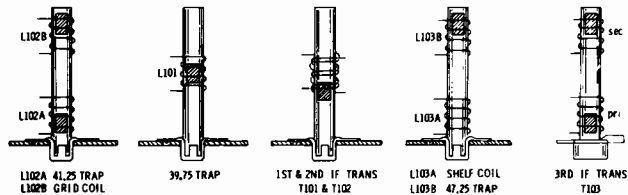

FIGURE 9. COIL CORE POSITIONS
10. All coil slug tuning positions, in relation to chassis, are given in the procedure chart and in the separate detail of Figure 9.